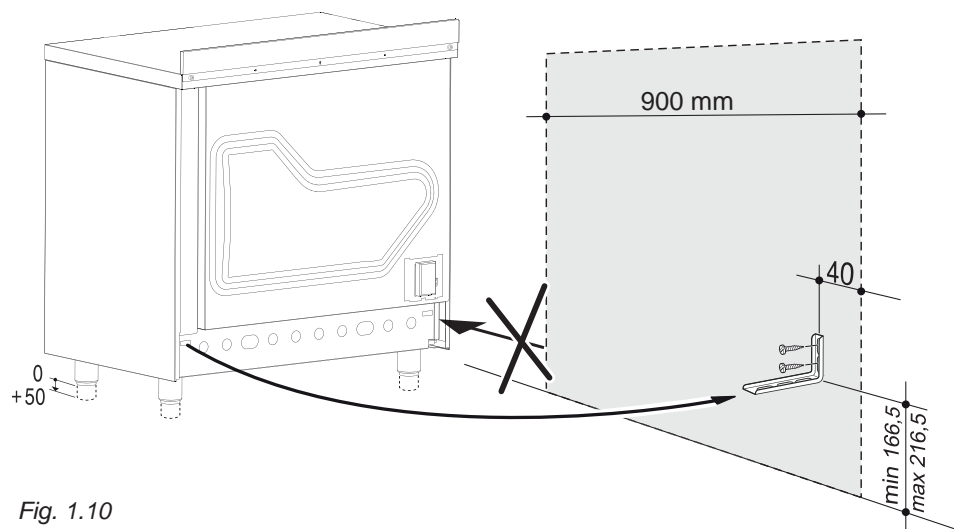

Fig. 1.10
Please follow the indications given in fig. 1.10.
4. Move the cooker to the wall and adjust the height of the anti-tilt bracket so that it can engage in the slot on the cooker's back, as shown in fig. 1.10.